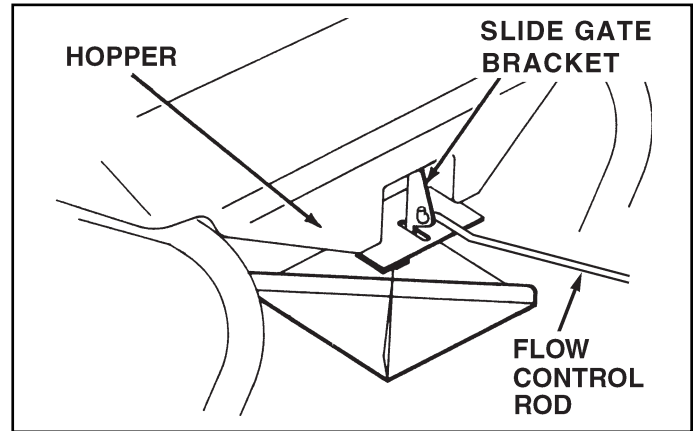

FIGURE 10
21. Hook the double bent end of the flow control rod through the hole in the slide gate bracket located near the bottom of the hopper. See figure 10.